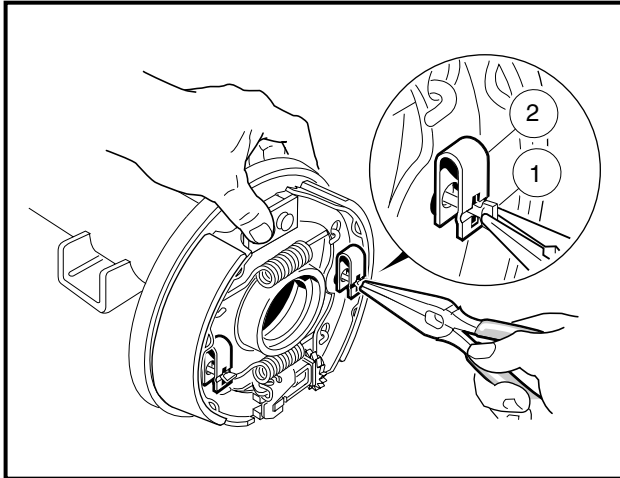

Figure 6-4 Rotate Clip Retainer
6. Using needle nose pliers, rotate the clip retainer pin (1) 90° to remove the shoe retainer clip (2) on each shoe (**Figure 6-4, Page 6-3**).